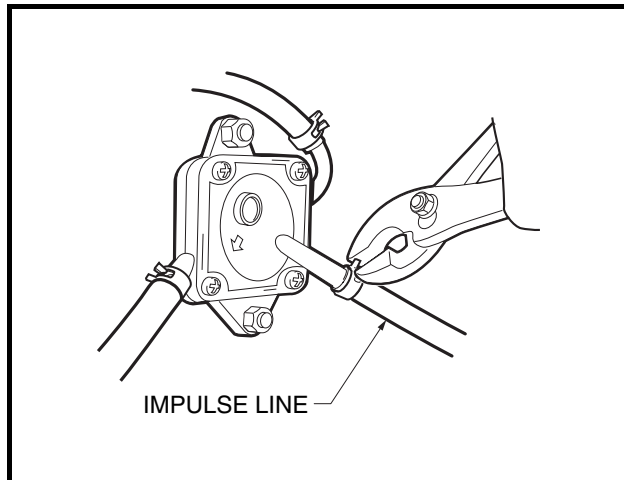

Figure 16-52 Impulse Line
27. Connect the impulse line to the fuel pump and secure it with the hose clamp (**Figure 16-52, Page 16-21**).